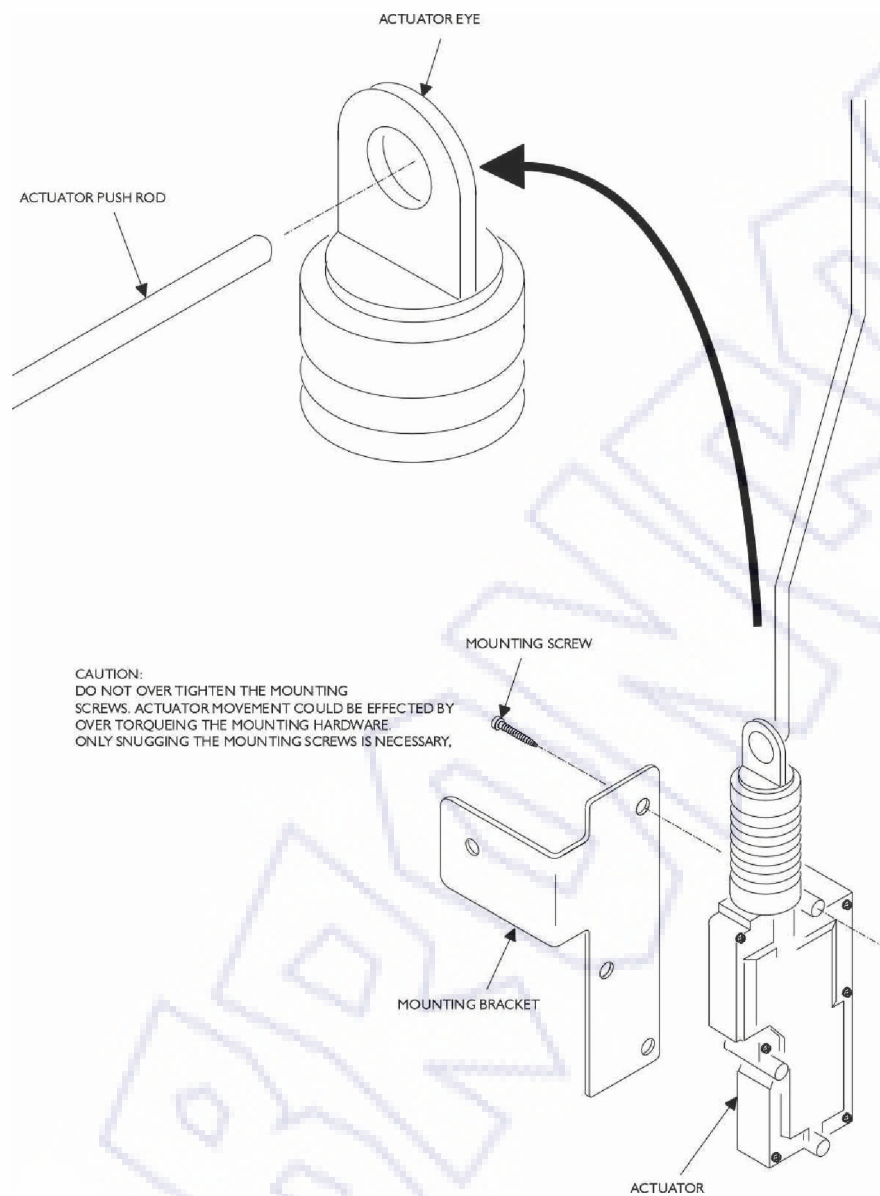

Figure 3. Attaching the actuator to the mounting bracket.
17. Attach the actuator mounting bracket to the door lock actuator using the provided hardware. See Figure 3.
19. Insert the lock actuating rod into the lock actuator as shown in Figure 3.